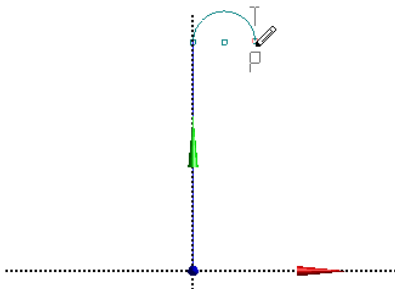

Figure 3-62 Specifying the startpoint of the line
18. Now you need to create a line tangent to the arc 1. Invoke the **Tangent Line** tool from the **Draw** toolbox and move the cursor close to the end point of arc 1; the symbols of Tangent constraint (**T**) and the Point Coincident constraint (**P**) are displayed. Click to specify the start point of the line 2, as shown in Figure 3-62.